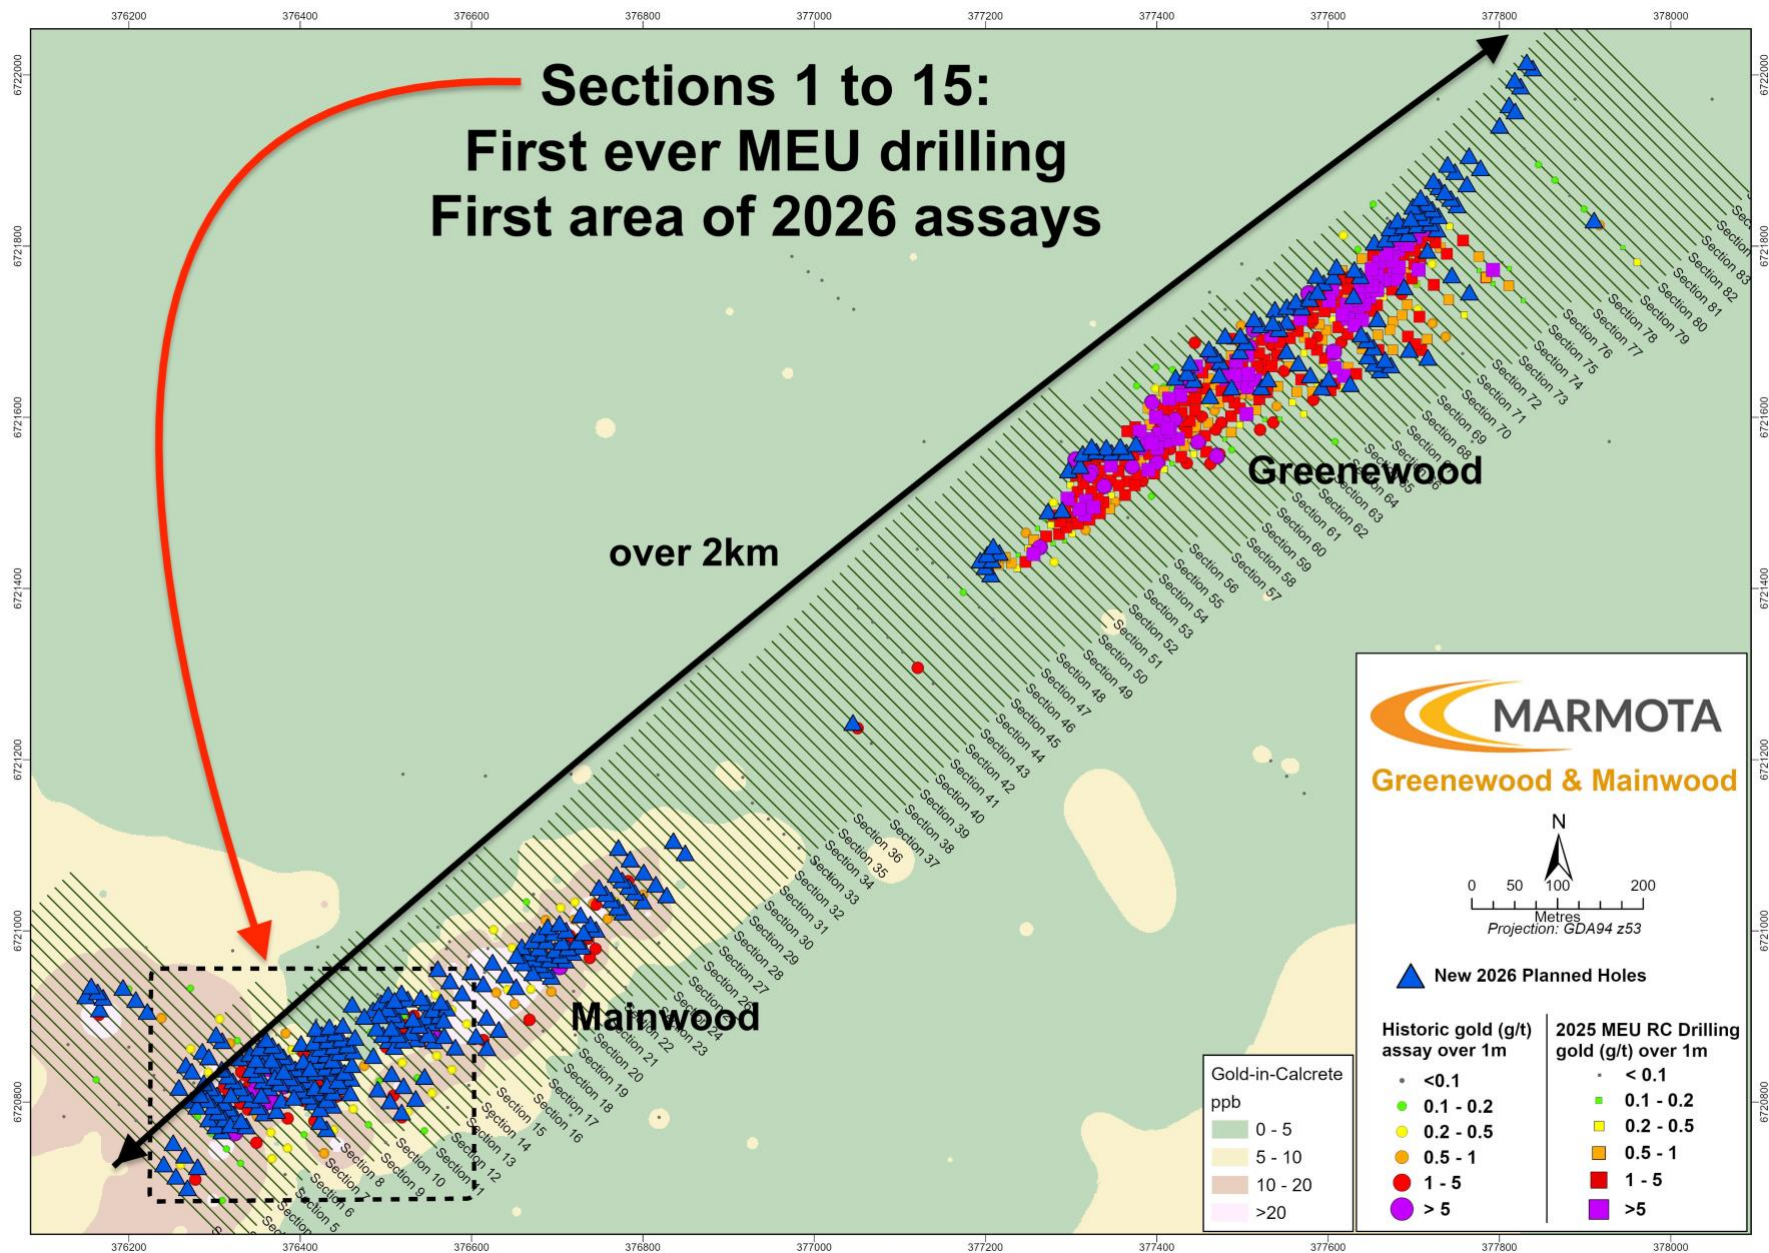

Figure 1: Area of first assay results: sections 1 to 15
Figure 1 shows an overview of Greenwood and its southern extension (Mainwood), and highlights the subject area of this first ASX release, being sections 1 to 15 (out of 84 sections).
- The program has already delineated a nearly-continuous high-grade mineralised system [see purple dots in **Fig. 1**]. The deposit features multiple bonanza gold grades, close to surface, with excellent continuity along strike (see the high-grade purple dots in **Fig. 1**), with exceptional thick high-grade intersections including **33m @ 10 g/t gold** from 22m downhole, **22m @ 5.1 g/t gold** from 49m, **12m @ 5.4 g/t gold** from 19m, *etc.* [see ASX:MEU 28 May 2026]